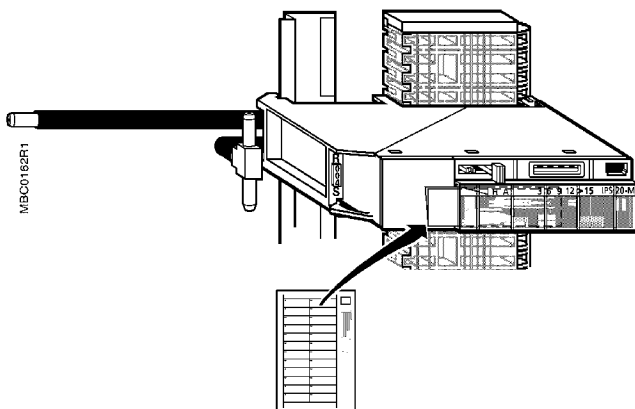

Figure 2. Labeling the Point Module.
3. Fold the label to double thickness and insert it into the slot on the left side of the module (Figure 2).